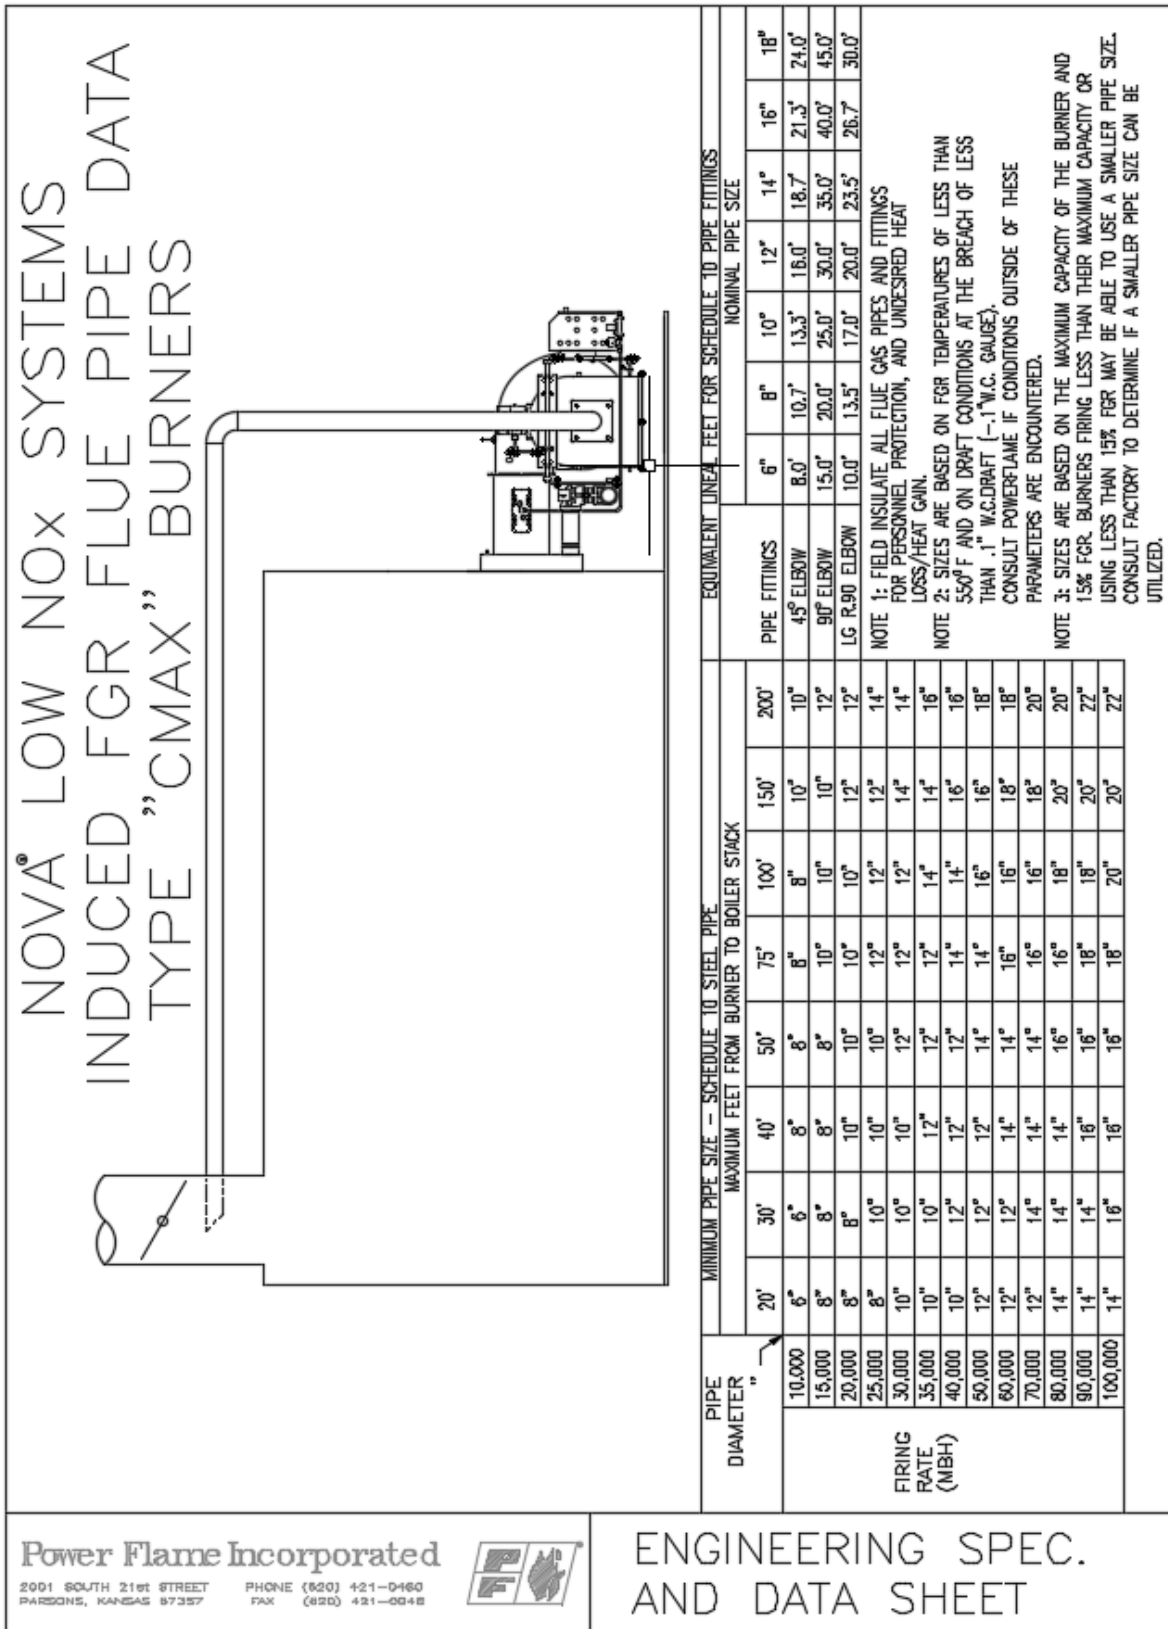

Figure 17: IFGR piping specs
- 4.3.1 The IFGR Low NO_x adapter is pre-mounted to the Power Flame burner. Induced flue gas recirculation (IFGR) piping is not provided by Power Flame. Induced flue gas pipe sizing recommendations are included in Figure 17.
- 4.3.2 Install the IFGR pipe from the stack, or last pass smoke box, to the burner IFGR connecting flange. If the takeoff is from the stack, it should be upstream of any stack damper or barometric damper. If a barometric damper is used, care must be taken to ensure that fresh air infiltration into the IFGR system does not occur. It is recommended that the IFGR pipe extends to the center of the stack and includes a 45° miter cut facing down into the stack flue gas flow (see Figure 17). Seamless carbon steel pipe or tubing is recommended for the IFGR pipe.
- 4.3.3 The IFGR piping should be routed to minimize pipe length and number of fittings. In higher draft applications, increased pipe sizes from that recommended in Figure 17 may be required.